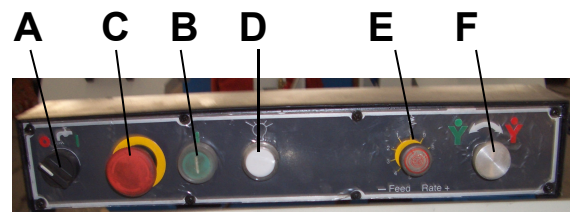

Fig.3
(D) is controlled by a lever (C) Fig.3, which contacts the top of the hydraulic cylinder (E) shutting off the
7. If the motor stops before the cut is completed or continues to run after the cut is completed, the limits switch (D) Fig.3. Can be adjusted up or down by loosening the two screws.